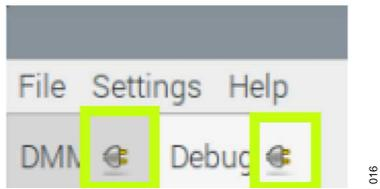

Figure 17. IIO Oscilloscope DMM and Debug Tabs
6. Open IIO Oscilloscope and undock the DMM and Debug tabs as shown in Figure 17.